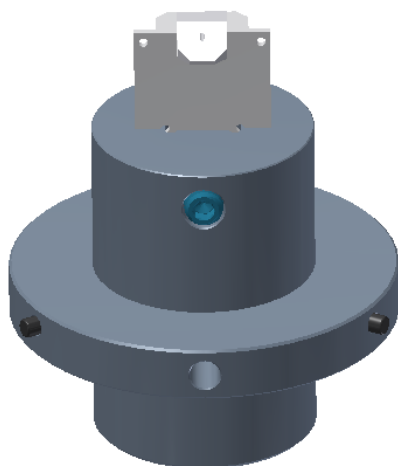
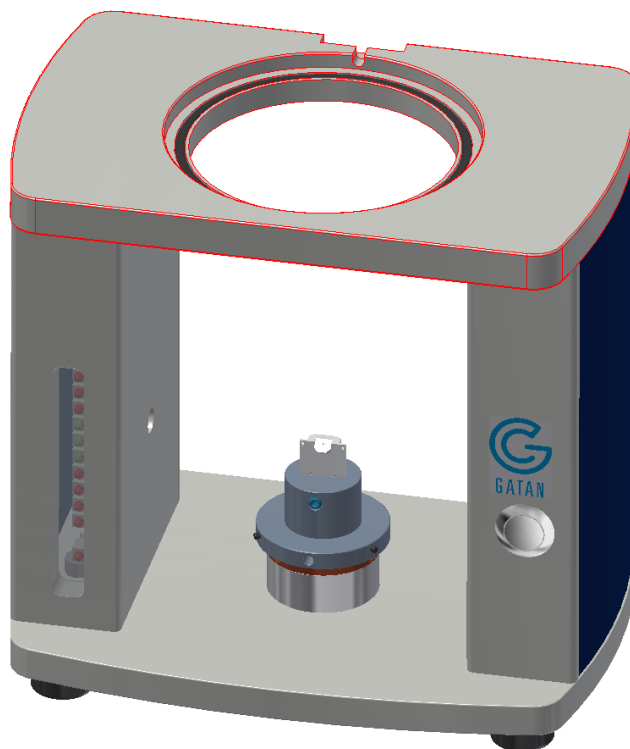

Figure 3-68. Cross section sample mount with beam alignment screen
Figure 3-69. Beam alignment screen in loading dock
1. **Load the alignment screen/ cross section sample mount into the system** . The front of the alignment screen (angled surface with oval hole) must be aligned with the hole in the front of the sample mount, see Figure 3-68. The front of the sample mount is shown in this figure, and should face the front of the loading dock when the sample mount is picked up with the transfer device, see Figure 3-69.